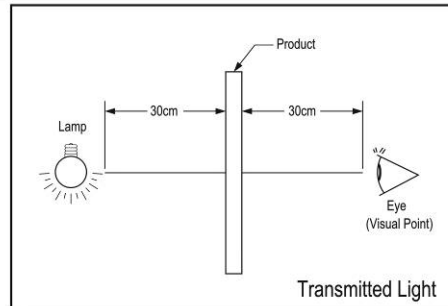
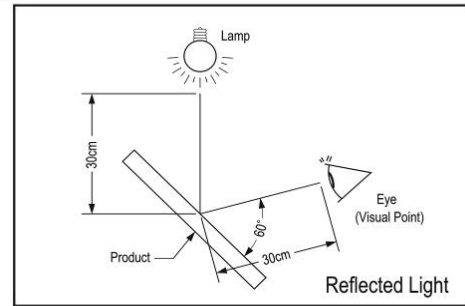

Figure 11-1
Figure 11-2
(1) 18W(1000±500Lux) fluorescent luminant lamp is used for appearance inspection. Detail settings are shown in (Fig 11-1) and (Fig 11-2).
[檢測使用之燈光為 18W(1000±500Lux)白熾燈光，詳細的擺設方式，請參考圖(Fig11-1), (Fig11-2)]